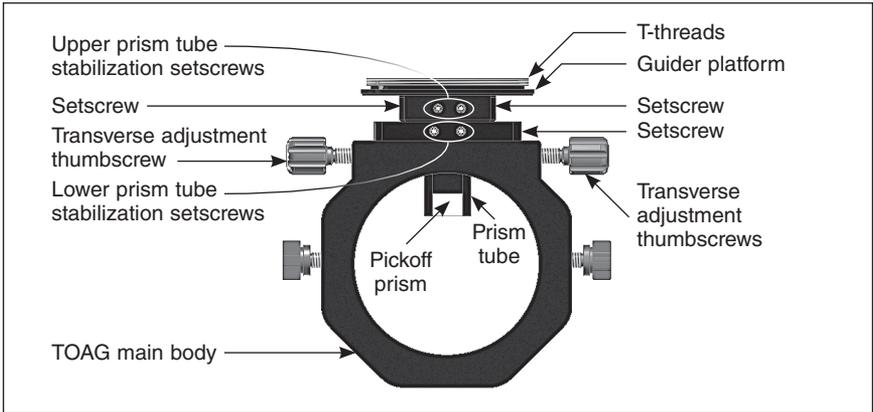
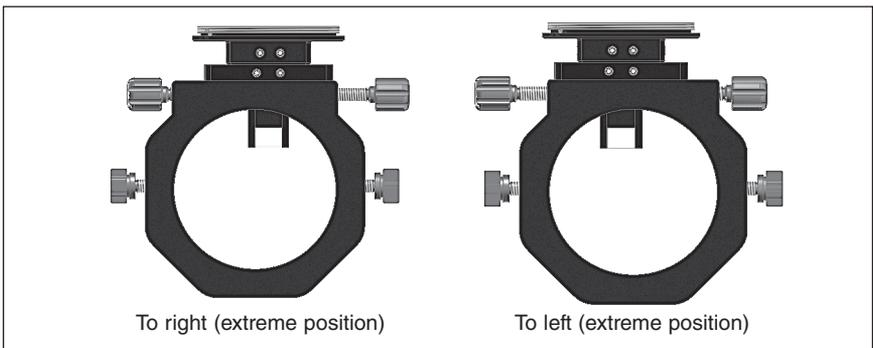

Figure 2. Parts of the TOAG
Figure 4. Side-to-side adjustment
Since the initial release of the TOAG, we have added four prism tube stabilization setscrews to eliminate any possible flexing of the guide camera relative to the TOAG main body (**Figure 2**). No other thin off-axis guider on the market has this unique stabilization feature. The four setscrews provide enhanced rigidity to the prism tube and, thus, to the autoguider platform where the guide camera is installed. These four setscrews are perpendicularly oriented relative to the other, lateral setscrews that also serve to secure the prism tube to both the guider platform and the TOAG main body. This cross-directional stabilization provides a highly rigid, flexure-free unit to insure trouble-free guiding.
The pick-off prism can be adjusted side-to-side a small distance, using the two transverse adjustment thumbscrews (**Figure 2**). Turn both thumbscrews toward or away from you to move the prism laterally (**Figure 4**). This is a great feature when looking for a suitable guide star, as it allows having a virtual prism with about twice the width of the original prism. This adjustment should only be done after
- c. Compare the obtained main camera image to the autoguider image. The autoguider image might be out of focus. If so, loosen the upper two prism tube stabilization setscrews and the two lateral setscrews adjacent to them (refer to **Figure 2**). This allows you to move the guider platform up or down a few millimeters – without moving the prism tube. Move the guider